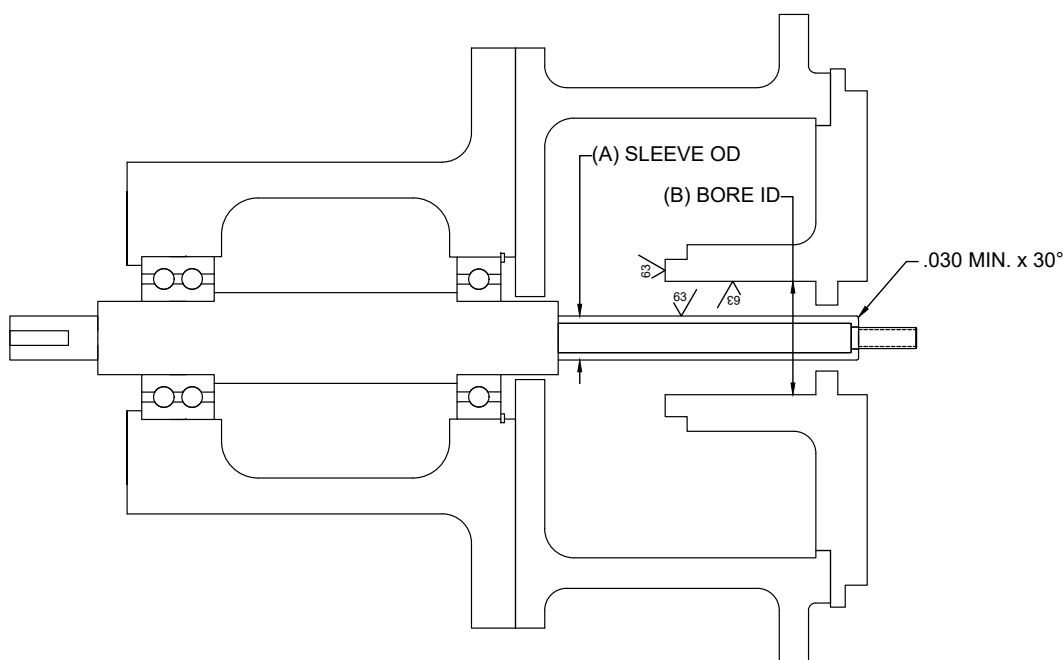

Figure 1: Surface finish and chamfer locations. Fully assembled pump without seal.
5. Sealing surfaces and the shaft or shaft sleeve must have at least a 63 Ra- μ in surface finish as seen in Figure 1.
6. For ease of installation, the leading edge of the shaft or sleeve should be chamfered as shown in Figure 1 and all parts should be deburred.